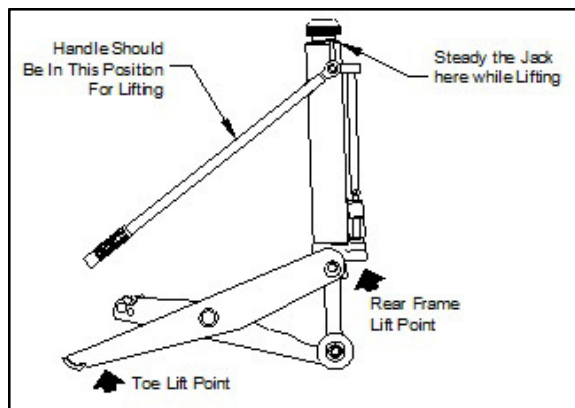

Fig. 2: Lock handle in place to wheel and/or lift jack
2. Insert the jack pump handle into the socket and lock it into place using the quick-release locking pin (see Fig. 2) immediately after inserting it into the socket.
1. Identify the proper lift points on the jack (see Fig. 2). The jack should be lifted using both the toe lift point and the rear frame lift point.
5. Make sure the handle is in the horizontal (operating) position so that the jack can be pumped to raise the forklift (see Fig. 2).